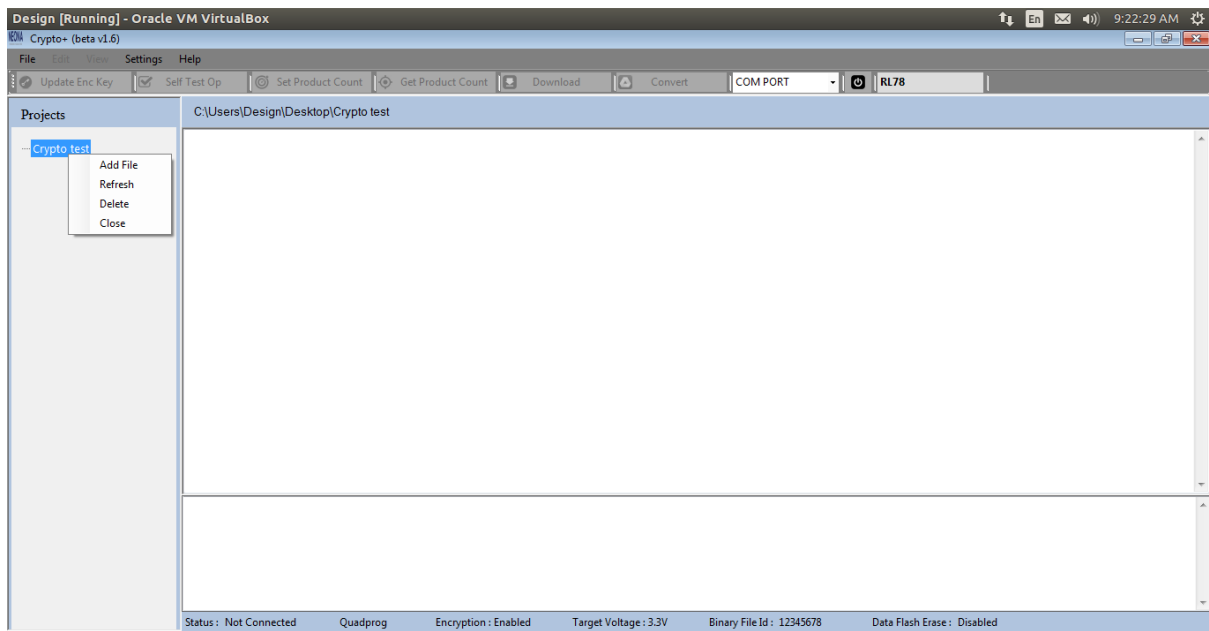

Figure 2.21
STEP 1: Right click on the project name displayed in the tree-view as shown in figure 2.21.